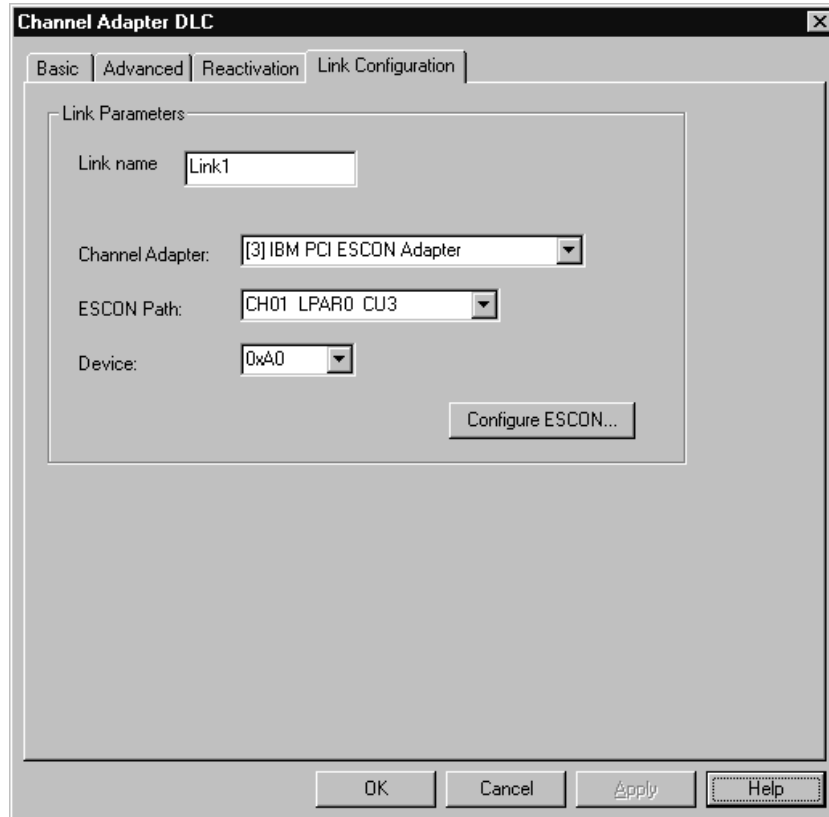
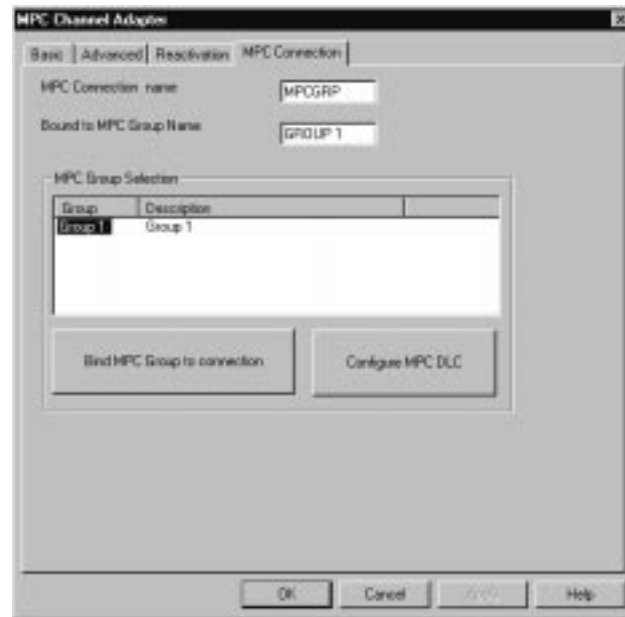

Figure 7-21. Link Configuration
Figure 7-22. MPC Channel Adapter Connection Definition
You may define a **PU Name** to this connection. If you do not enter a PU name it will default to the Link name as entered on the Link Configuration screen (Figure 7-21) for non-MPC links. It will default to the MPC Connection Name (Figure 7-22) for MPC links.
3. For standard connections click on the **Link Configuration** tab (Figure 7-21).
For MPC connections, click on the **MPC Connection** tab (Figure 7-22).